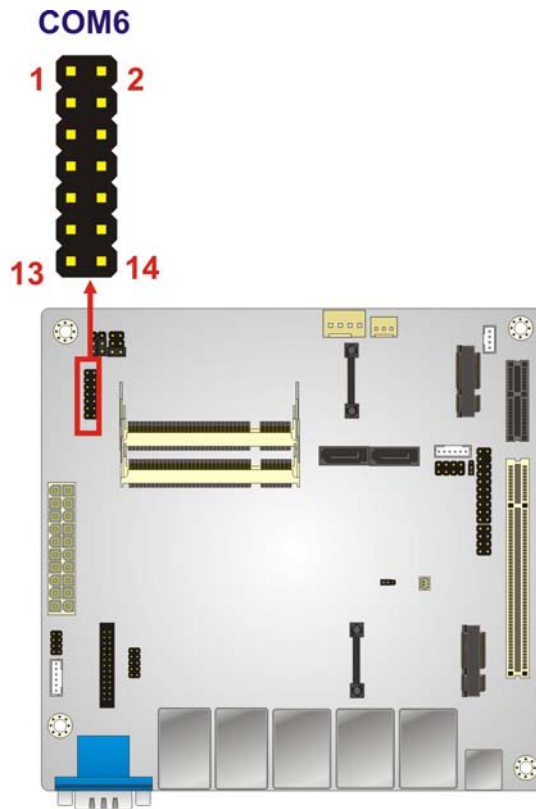

Figure 3-10: RS-232/422/485 Serial Port Connector
- CN Location: See **Figure 3-10**